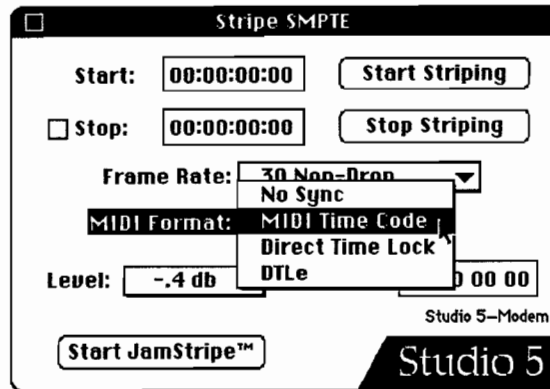

Figure 13-12: Choose a MIDI Format
- Choose **Receive Sync** from Performer's **Basics** menu and set the window as shown in Figure 13-12.